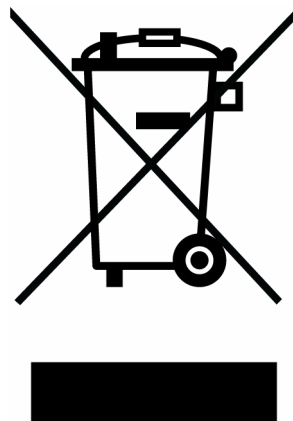

Figure 19 Crossed out “wheelevator bin” symbol
- marked correspondingly with the crossed out “wheelie bin” logo (see Figure 19)